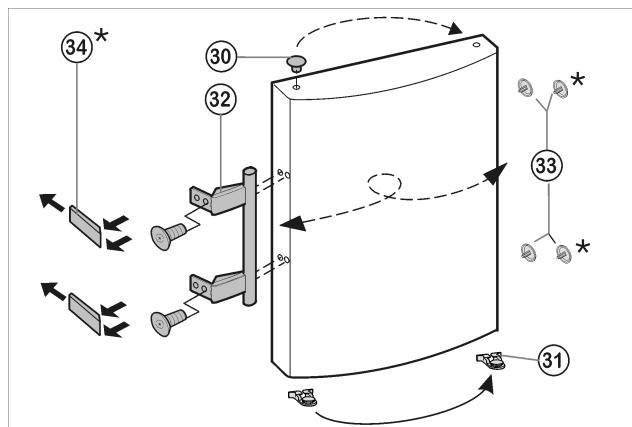

Fig. 8
- Pull the *Fig. 8* (30)plugs out of the door bearing bushes and move them to the other side.
- Remove the door handles *Fig. 8* (32), plugs *Fig. 8* (33) and pressure plates* *Fig. 8* (34) and swap them over to the opposite side.